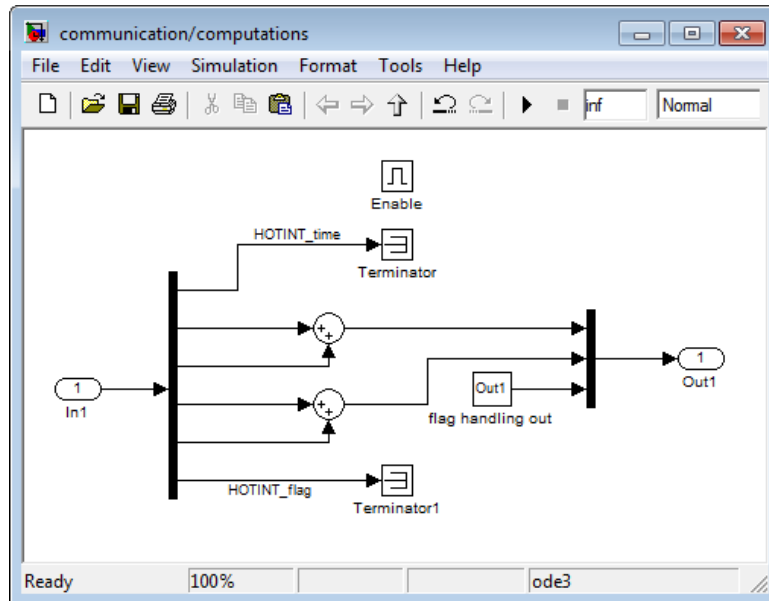

Figure 3.68: Subsystem computations
- (4) Set the “Sample Time” of every block (TCP/IP Receive, Constants,...) and choose fixed step size in the “Solver Options”.
- (5) Open the subsystem “computations”, see figure 3.68. This subsystem contains all computations $\mathbf{y} = \mathbf{f}(\mathbf{u})$ with input \mathbf{u} and output \mathbf{y} .